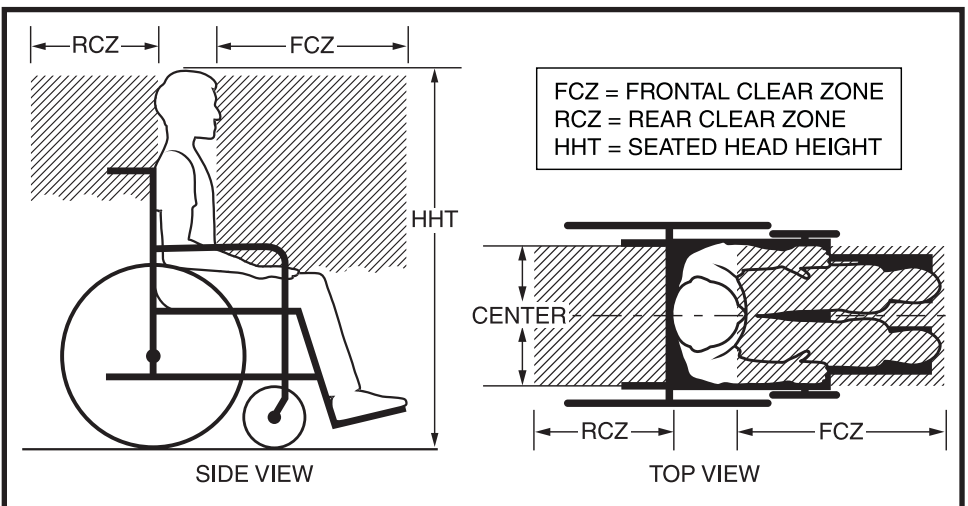

Figure 12. Recommended Clear Zones for Power Chair-seated Occupants
- The frontal clear zone (FCZ) is measured from the forwardmost point on the occupant's head and should measure at least 66 cm (26 in.) if both a pelvic and upper-torso belt are used. **See figure 12.**
- The rear clear zone (RCZ) is measured from the rearmost point on the occupant's head and should measure at least 40.64 cm (16 in.). **See figure 12.**
- The seated head height (HHT) ranges from about 120 cm (47 in.) for a small adult female to about 155 cm (61 in.) for a tall adult male. **See figure 12.**